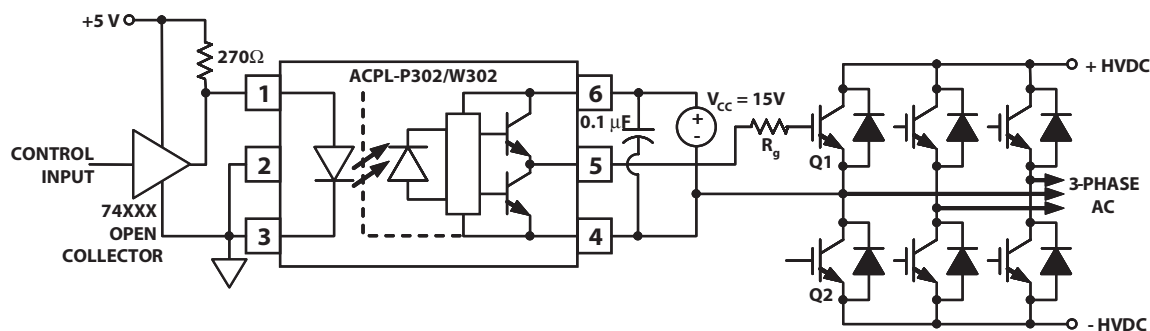
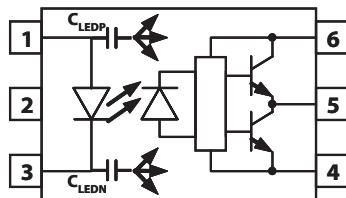
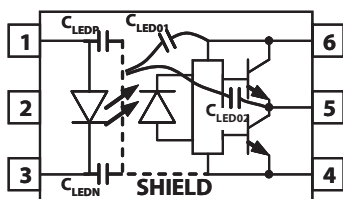
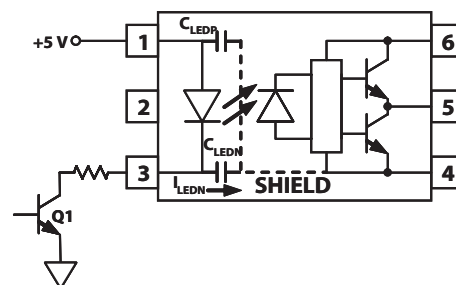

Figure 17. Recommended LED Drive and Application Circuit for ACPL-P302/W302
Figure 19. Optocoupler Input to Output Capacitance Model for Unshielded Optocouplers.
Figure 20. Optocoupler Input to Output Capacitance Model for Shielded Optocouplers.
Figure 22. Not Recommended Open Collector Drive Circuit.
To keep the IGBT firmly off, the ACPL-P302/W302 has a very low maximum  $V_{OL}$  specification of 1.0 V. Minimizing  $R_g$  and the lead inductance from the ACPL-P302/W302 to the IGBT gate and emitter (possibly by mounting the ACPL-P302/W302 on a small PC board directly above the IGBT) can eliminate the need for negative IGBT gate drive in many applications as shown in Figure 17. Care should be taken with such a PC board design to avoid routing the IGBT collector or emitter traces close to the ACPL-P302/W302 input as this can result in unwanted coupling of transient signals into the input of ACPL-P302/W302 and degrade performance. (If the IGBT drain must be routed near the ACPL-P302/W302 input, then the LED should be reverse biased when in the off state, to prevent the transient signals coupled from the IGBT drain from turning on the ACPL-P302/W302.
Step 1: Calculate  $R_g$  minimum from the  $I_{OL}$  peak specification. The IGBT and  $R_g$  in Figure 17 can be analyzed as a simple RC circuit with a voltage supplied by the ACPL-P302/W302.
where  $K_{ICC} \cdot Q_g \cdot f$  is the increase in  $I_{CC}$  due to switching and  $K_{ICC}$  is a constant of 0.001 mA/(nC\*kHz). For the circuit in Figure 17 with  $I_F$  (worst case) = 10 mA,  $R_g = 57.5 \Omega$ , Max Duty Cycle = 80%,  $Q_g = 100$  nC,  $f = 20$  kHz and  $T_{AMAX} = 85^\circ\text{C}$ :
Without a detector shield, the dominant cause of optocoupler CMR failure is capacitive coupling from the input side of the optocoupler, through the package, to the detector IC as shown in Figure 19. The ACPL-P302/W302 improves CMR performance by using a detector IC with an optically transparent Faraday shield, which diverts the capacitively coupled current away from the sensitive IC circuitry. However, this shield does not eliminate the capacitive coupling between the LED and optocoupler pins 5-8 as shown in Figure 20. This capacitive coupling causes perturbations in the LED current during common mode transients and becomes the major source of CMR failures for a shielded optocoupler. The main design objective of a high CMR LED drive circuit becomes keeping the LED in the proper state (on or off) during common mode transients. For example, the recommended application circuit (Figure 17), can achieve 10 kV/ $\mu$ s CMR while minimizing component complexity.
The open collector drive circuit, shown in Figure 22, can not keep the LED off during a  $+dV_{CM}/dt$  transient, since all the current flowing through  $C_{LEDn}$  must be supplied by the LED, and it is not recommended for applications requiring ultra high  $CMR_L$  performance. The alternative drive circuit which like the recommended application circuit (Figure 17), does achieve ultra high CMR performance by shunting the LED in the off state.